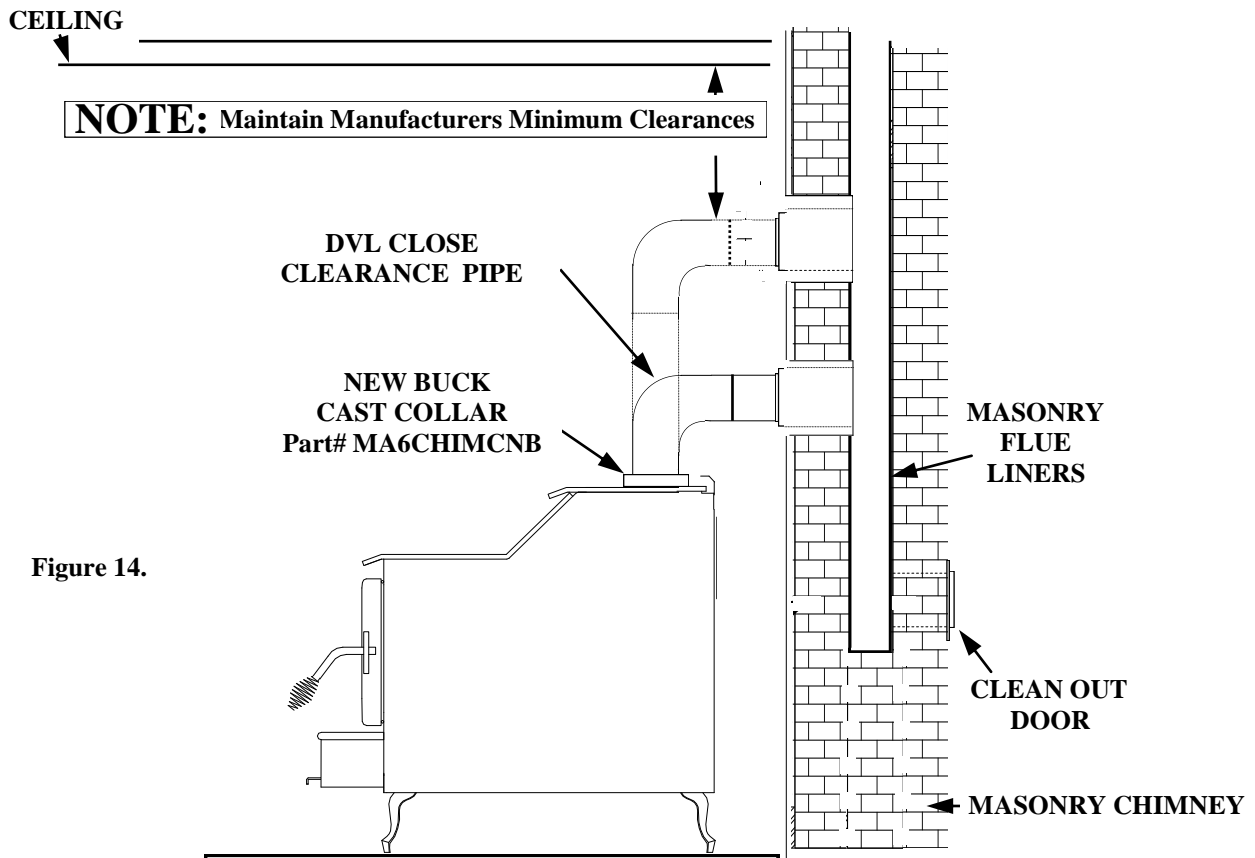

Figure 14.
- (c) Secure each section to each other using at least three (3) sheet metal screws or rivets.
- (d) Use three (3) sheet metal screws to fasten pipe to New Buck Cast Collar on heater, after New Buck Cast Collar Part# MA6CHIMCNB has been attached to stove. (See Page 19 Figure 14).